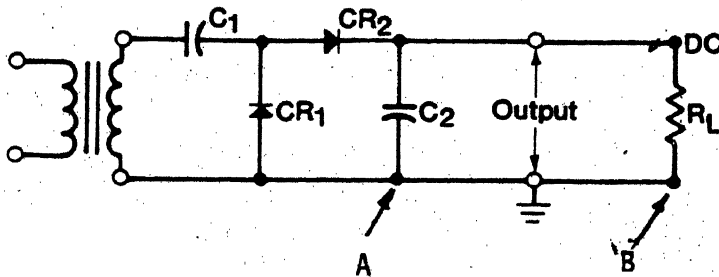

Figure 2
2. The resistance of a connecting wire or foil on a printed circuit board is "Zero" ohms. See Figure 2.